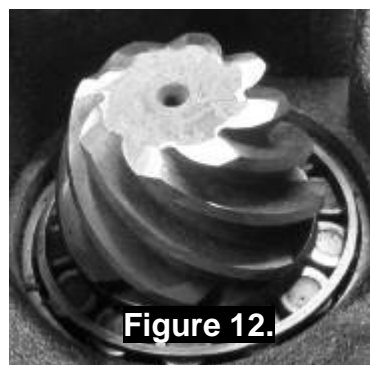

Figure 12.
- Check clearance again using a feeler gauge and remove more material if required. The modified pinion should look like figure 12..
- Rotate the seal housing until the square cutout lines up with the locking tab position at the center of the bearing cap, and then assemble the locking tab. Ensure adequate clearance between tab and cutout. Use a screwdriver to bend the tab upwards if necessary. (Fig.12.)